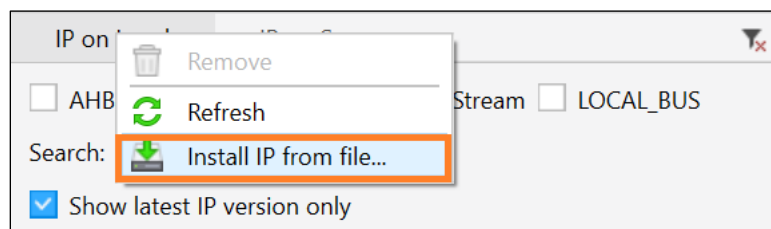

Figure 5.3. Install IP from File
- a. Right-click **IP on Local** and select **Install IP from file...**, as shown in Figure 5.3.